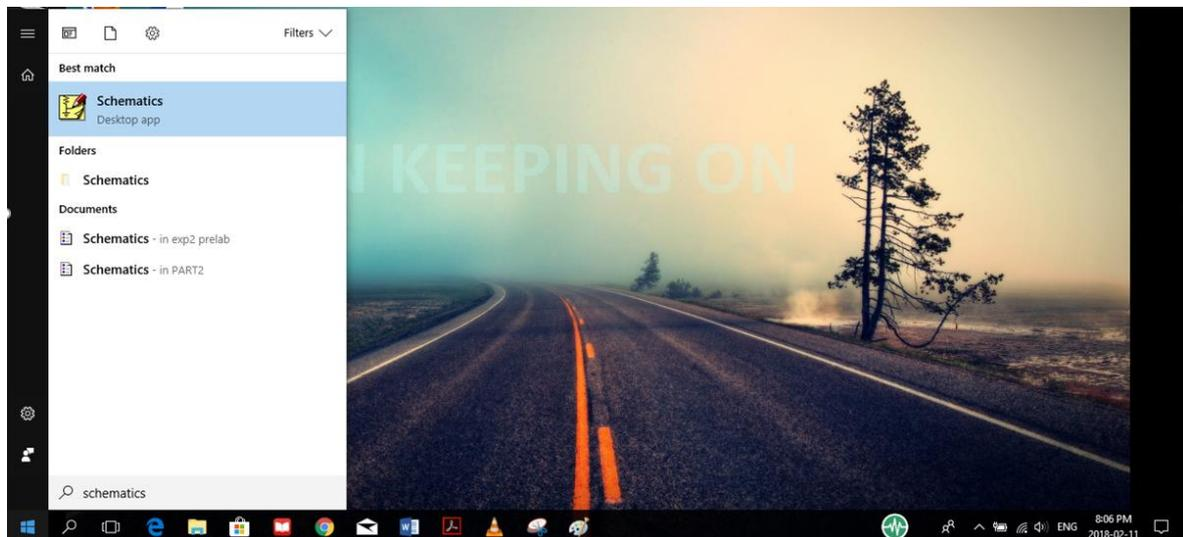

Figure.1
- To open PSPICE 9.1, search your computer for “**Schematic**” and open the program. This is shown in figure.1 for windows 10 users.